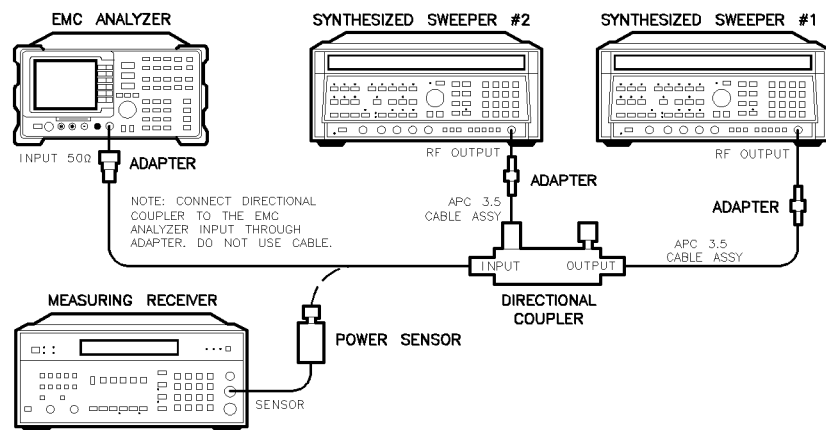

Figure 2-43.
35. Connect the equipment as shown in Figure 2-43 with the input of the directional coupler connected to the power sensor.